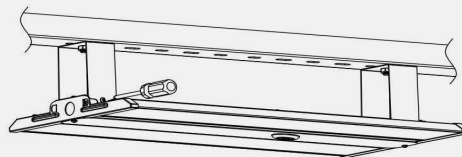

Figure 6
Step2. Assemble the lamp on the bracket and fix it with screws; (Figure 6)